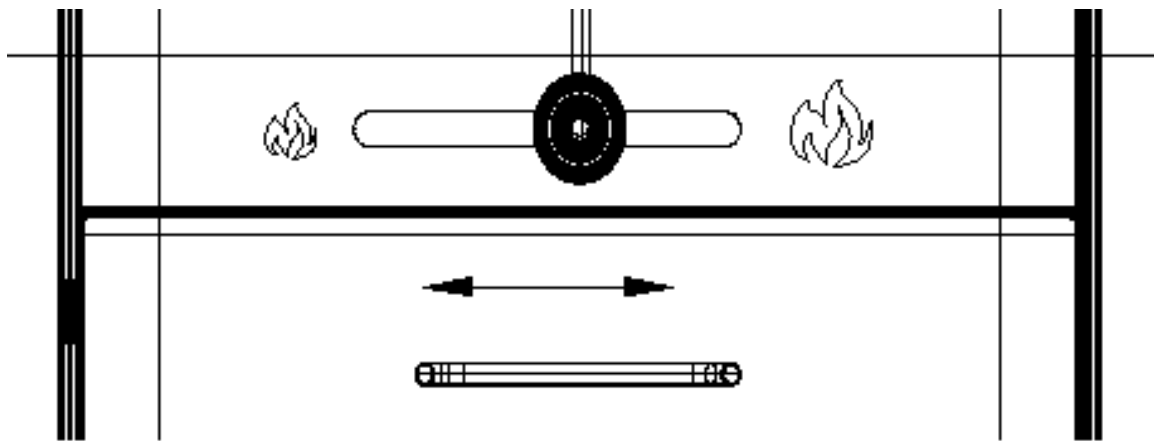

Figure 2.1
4. Open the draft control fully to the right (located on the front of the stove, Figure 2.1)
Open the draft control (located on the front of the stove) fully by moving it from the left to the right, as shown in Figure 2.1 and as indicated on the ash shelf trim.
Closing the draft control down too soon will hurt combustion efficiency, and result in creosote build-up in the chimney (which could lead to a future chimney fire).Figure 2.1 Draft control